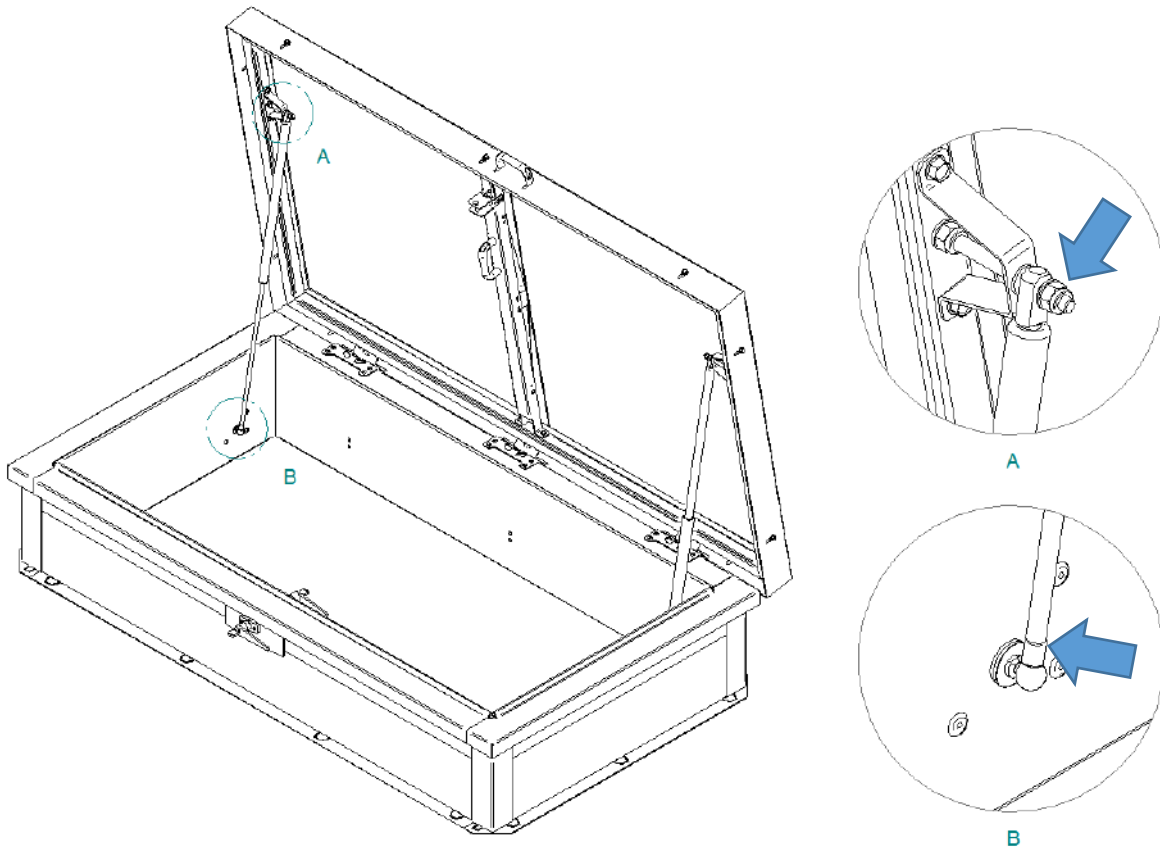

Fig. 17. Reversing the gas springs. A – M8 nut. B – ball-and-socket joint mount.
- c. Remove both gas springs: remove the M8 nuts attaching the gas springs to the leaf (Fig. 17, A), remove the gas springs from the ball-and-socket joints at the base (Fig. 17, B) (do not remove the ball-and-socket joints from the base!). Remove the gas springs.